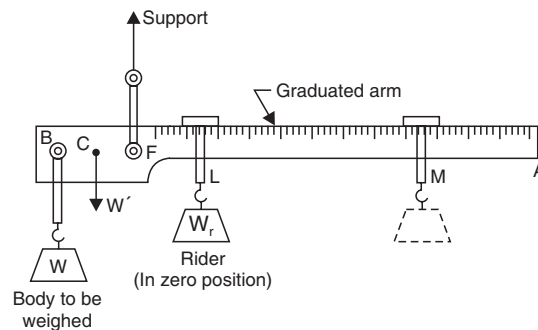

Fig. 3.23. The common steel yard.
**3.10.3. The Common Steel Yard.** The common steel yard is a device used for weighing goods based on type 1 lever. It consists of a rod  $AB$  which can move about a fixed fulcrum  $F$  which is kept near one of the ends. The rod is made heavier on the shorter side so that the *c.g.* of the whole rod and pan which is attached to the end of the shorter side lies on the shorter side. The rider (movable weight) is kept on the longer side as shown in Fig. 3.23. The longer arm on which the rider moves is graduated. The position of rider determines the weight of the body acting on shorter side end when the rod rests in a horizontal position.